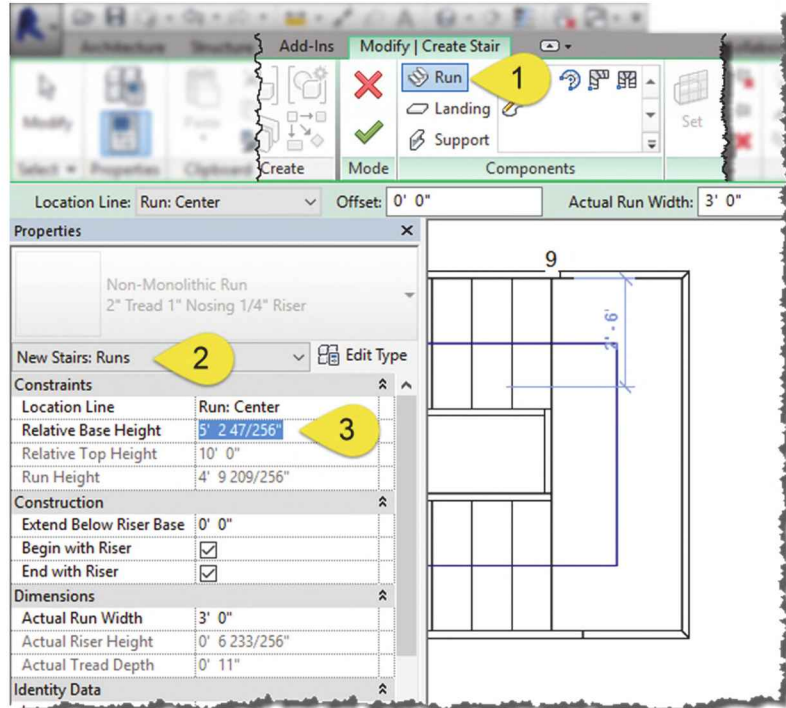

FIGURE 7-3.20 Drawing an extra stair run from an intermediate landing
- Select the **Run** command on the *Ribbon* (Step #1, Fig. 7-3.20)
- Switch the *Properties Palette* drop-down to **Run** (Step #2, Fig. 7-3.20)
- Paste the landing height into **Relative Base Height**; **CTRL + V** (Step #3, Fig. 7-3.20)